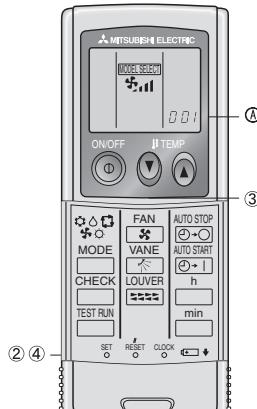

Fig. 6-6
- (1) Attach the remote controller holder to the desired location using two tapping screws.
- (2) Place the lower end of the controller into the holder.
3) Setting (Fig. 6-6)